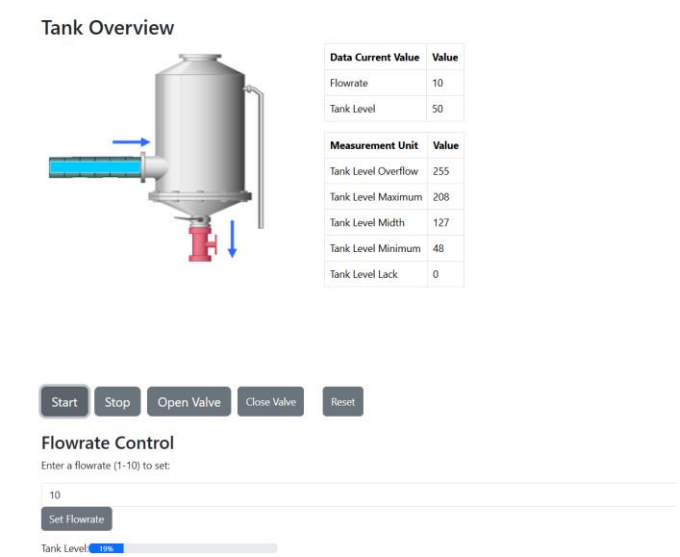

Figure 4-5: Web application Overview Tank. Filling State
- b. Image Update: Changes the tank image back to filling. See in Figure 4-5